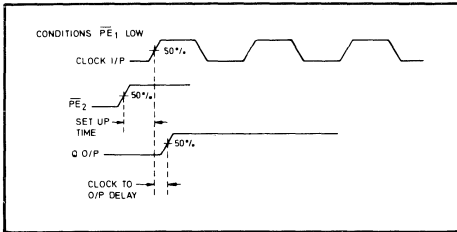

Fig. 3 Set-up timing diagram
- Set-up time is defined as the minimum time that can elapse between a L→H transition of a control input and the next L→H clock pulse transition to ensure that the ± 5 mode is forced by that clock pulse (see Fig. 3).